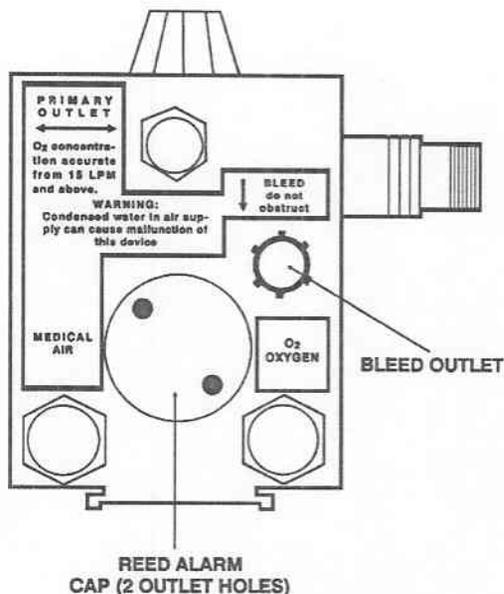

Figure 3-3. Blender decals.
(1) Component identification, instructions, and a warning are provided on decals, located on the bottom of the blender, as illustrated in figure 3-3.